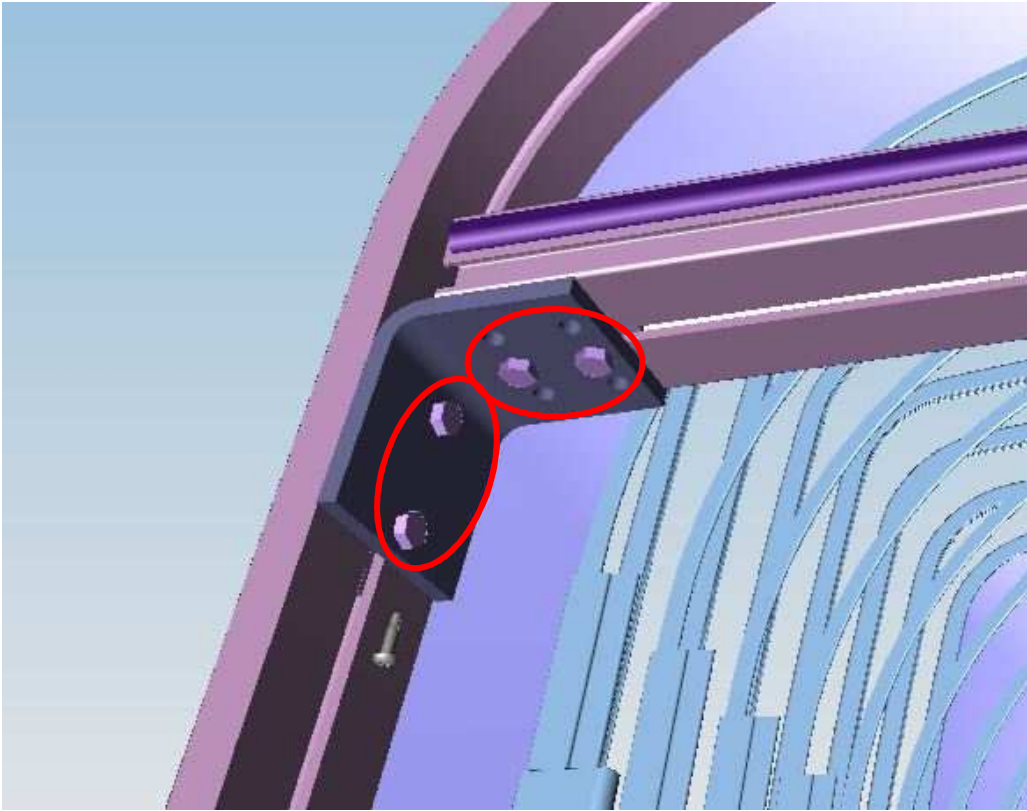
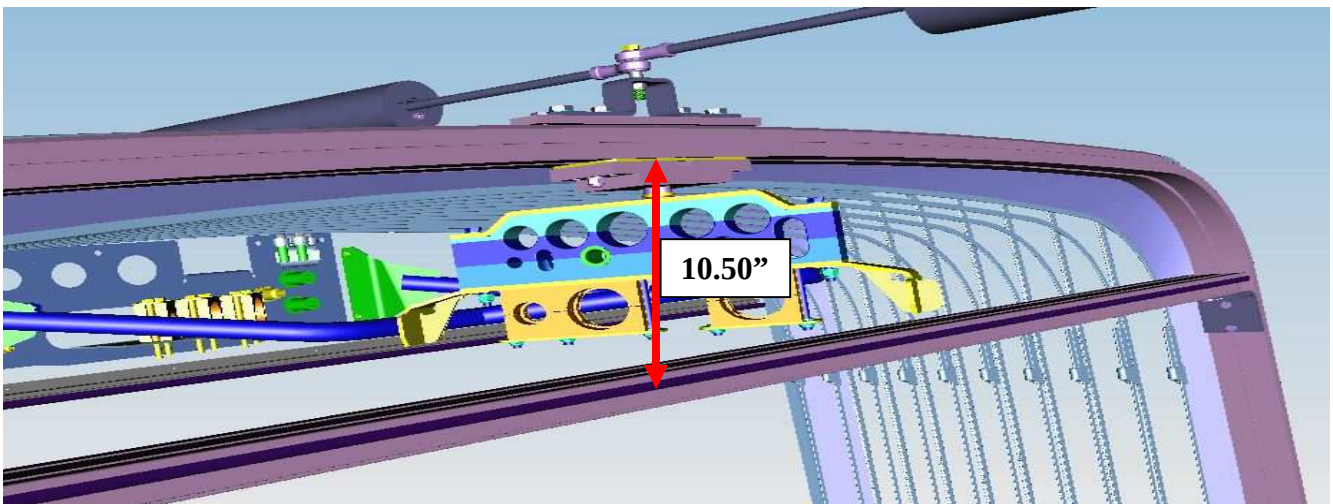

Figure 4: Loosen the screws, both sides
Figure 5: Lower the false ceiling strut to 10.50"
5. Measure the space between the hoop profile and false ceiling strut in the center as shown in figure 5. Lower the false ceiling strut to 10.50" by loosening the 8 retaining screws ensuring the strut is level when complete by measuring to the floor in two places while maintaining the 10.50" dimension. Figure 4 and 5. Torque the screws to 177 in-lbs.